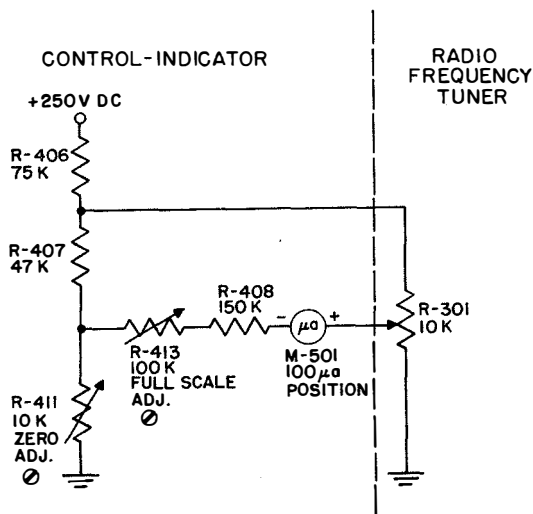

Figure 2-46. Position Indicator Circuit, Simplified Schematic
(5) POSITION INDICATOR CIRCUIT.—The POSITION indicator, M-402 (figure 2-46), gives an indication of the position of the shorting ring on the main tuning coil of the radio frequency tuner. To accomplish this a potentiometer, R-301 in the tuner, is geared to the same drive mechanism in the tuner that positions the shorting ring. The gear ratio is such that full excursion of the shorting ring will produce about 70 percent of full rotation of R-301. R-301 is part of a voltage divider network from +250 volts dc to ground, comprised mainly of R-406, R-407, R-411, and R-301. The values are such that the potential at the high end of R-301 is about +25 volts, with the low end grounded. As R-301 only travels 70 percent of its full rotation, when the shorting ring is driven to the top limit of its travel, the arm of R-301, which is connected to one side of POSITION meter M-402, will be at about +21 volts. When the ring is at the bottom limit, the arm of R-301 will be about +4 volts. With the arm of R-301 at the low limit, the value of R-411 is adjusted so the potential at the junction of R-407, R-411, and R-413 is the same as at the arm of R-301 (approximately +4 volts), at which point no current will flow through M-301, and the indication will be zero. With the arm of R-301 at the high end of the travel, there will be a potential of approximately 17 volts across the combination of limiting resistors R-413, R-408, and M-301. R-413 is adjusted for full-scale reading on M-301. By making both the low-scale and high-scale adjustments, accurate positioning of the shaft of R-301 with respect to the traverse of the shorting ring is eliminated, it being necessary only to ensure the total traverse lies between the limit stops of the potentiometer. Both R-411 and